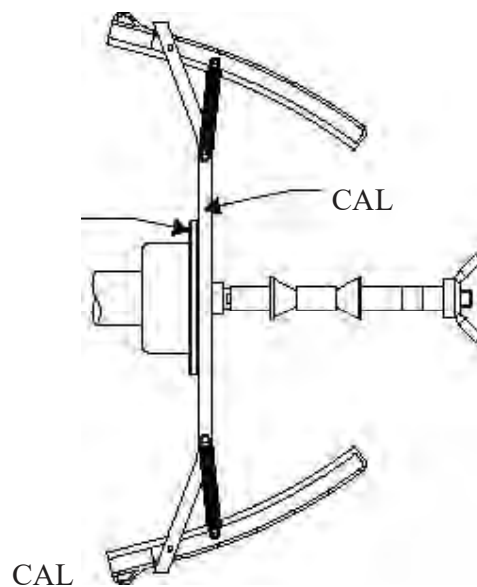

Fig. F4.1 Application of the motorbike flange onto the shaft. Align the writing “Cal” on the flange and on the flange for motorbikes
2. Apply the flange on the shaft for motorbike wheels as shown in Figure F4.1.